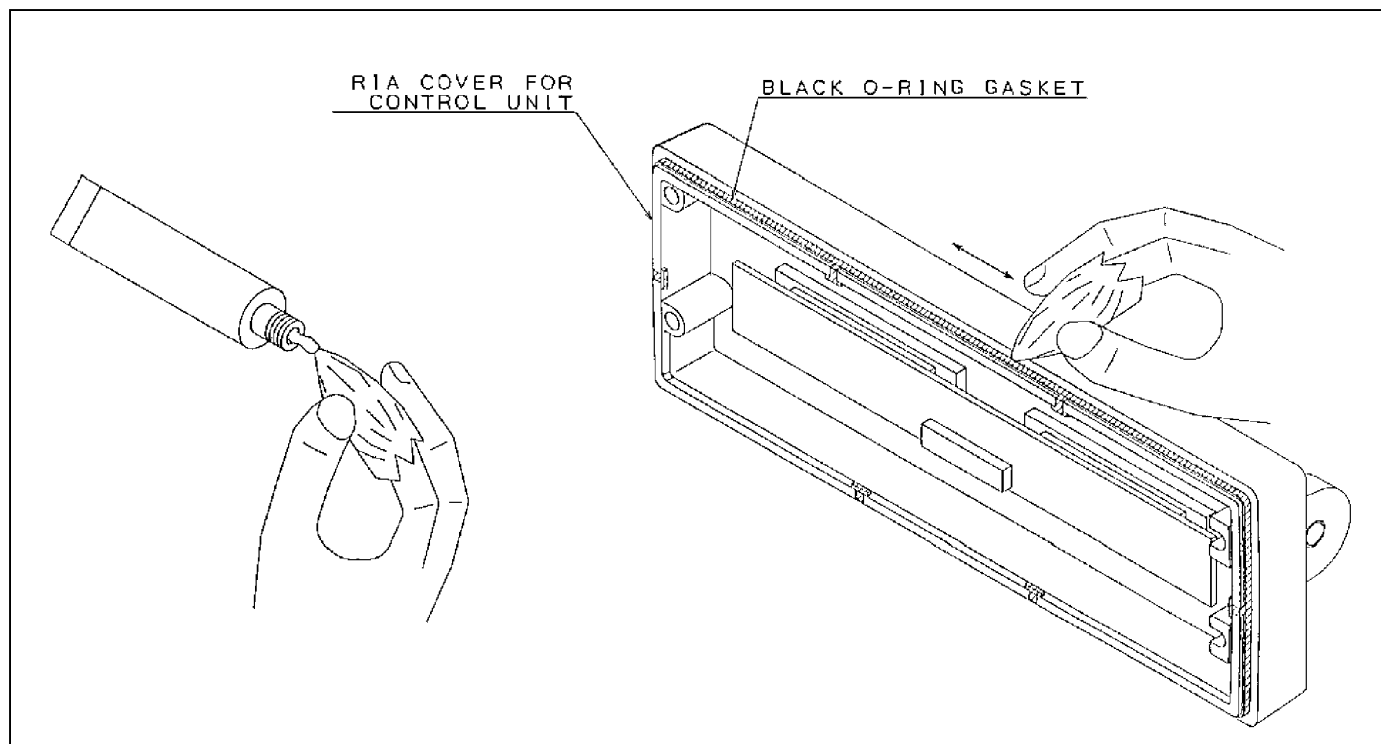

Figure 1 - Remote Mount Control Unit "O-Ring" Lubrication
To reload Tracking Data, connect the radio in the appropriate configuration as shown in Figure 1 or 2, and perform the following steps:
3. If measurements are within limits, the job is complete. If not, reconnect in the programming configuration according to Figures 1 or 2 and execute the programming maintenance software "**MRKMAINT**". Display the Tracking Data screen. For those frequencies where measurements are not within limits, enter new Tracking Data, following instructions on the screen. Program into radio personality and exit.